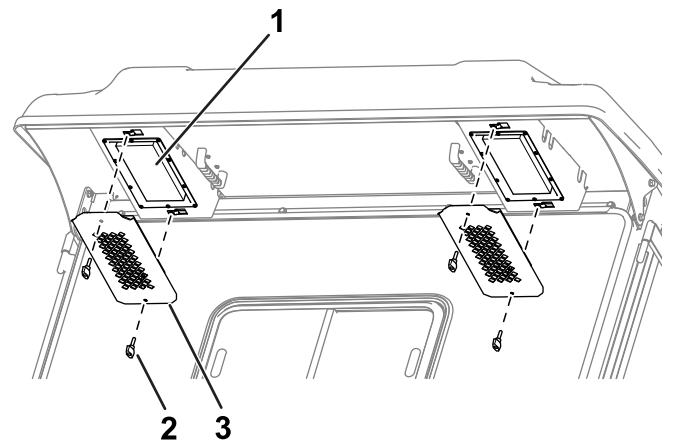

Figure 87
1. Remove the knobs and grates from the cab rear overhang (Figure 87).
4. Use the knobs and grates to install the filters into the cab (Figure 87).